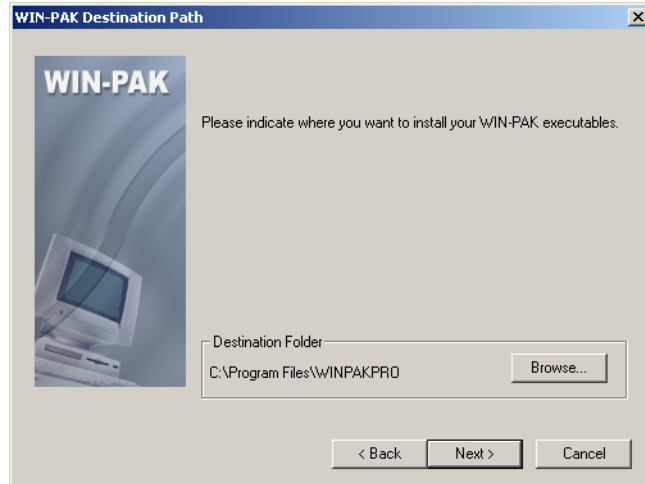

Figure 2-23 Choose Destination Path
1. On the **WIN-PAK Setup Type** dialog box, select **User Interface Only** and click **Next**. The system checks for SQL Service status and displays the screen shown in Figure 2-23.